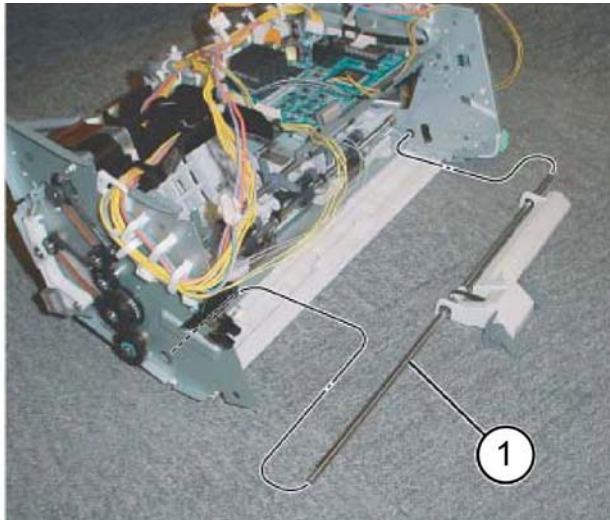

Figure 5 Paddle link assembly removal
7. Remove the paddle link assembly (1), Figure 5.